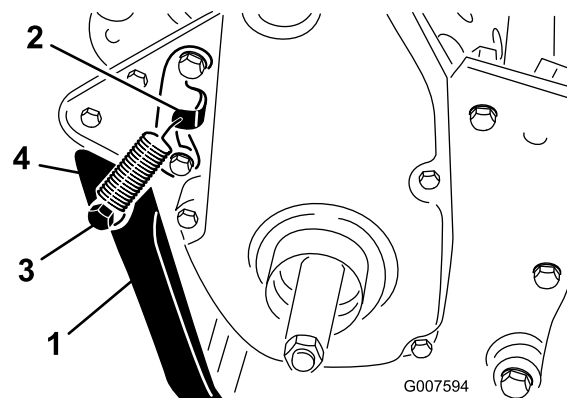

Figure 6
3. Mount the kickstand to each side of the frame with a bolt, spacer, flat washer, and locknut (Figure 6).
2. Hook the spring into the hole in the spring bracket and onto the spring stud while aligning the kickstand with the mounting holes in the rear frame (Figure 6).